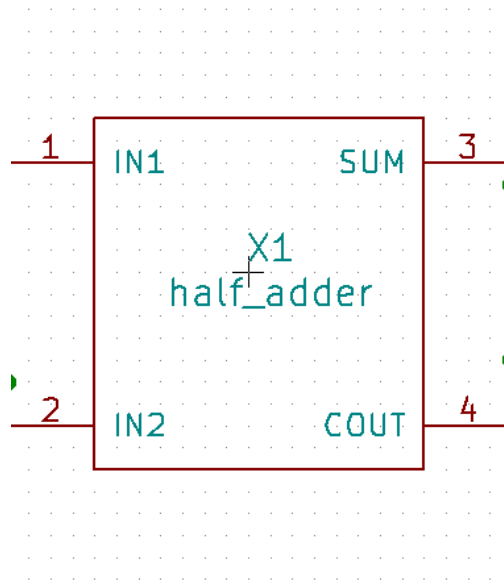

Figure 8.8: Half-Adder Subcircuit Block
9. The final block of the subcircuit would look as shown in Fig. 8.8. Pins should be attached properly. Labels (Names to the PORTs) should be given such that it is intuitive and someone other than you should be able to understand and use that block with least amount of hassle.
- Once above steps are verified, proceed to create a block as shown in Fig. 8.8 and name should be same as that of the corresponding .sub file uploaded earlier. Pins of this block should match the number of pins stated in the .sub file.